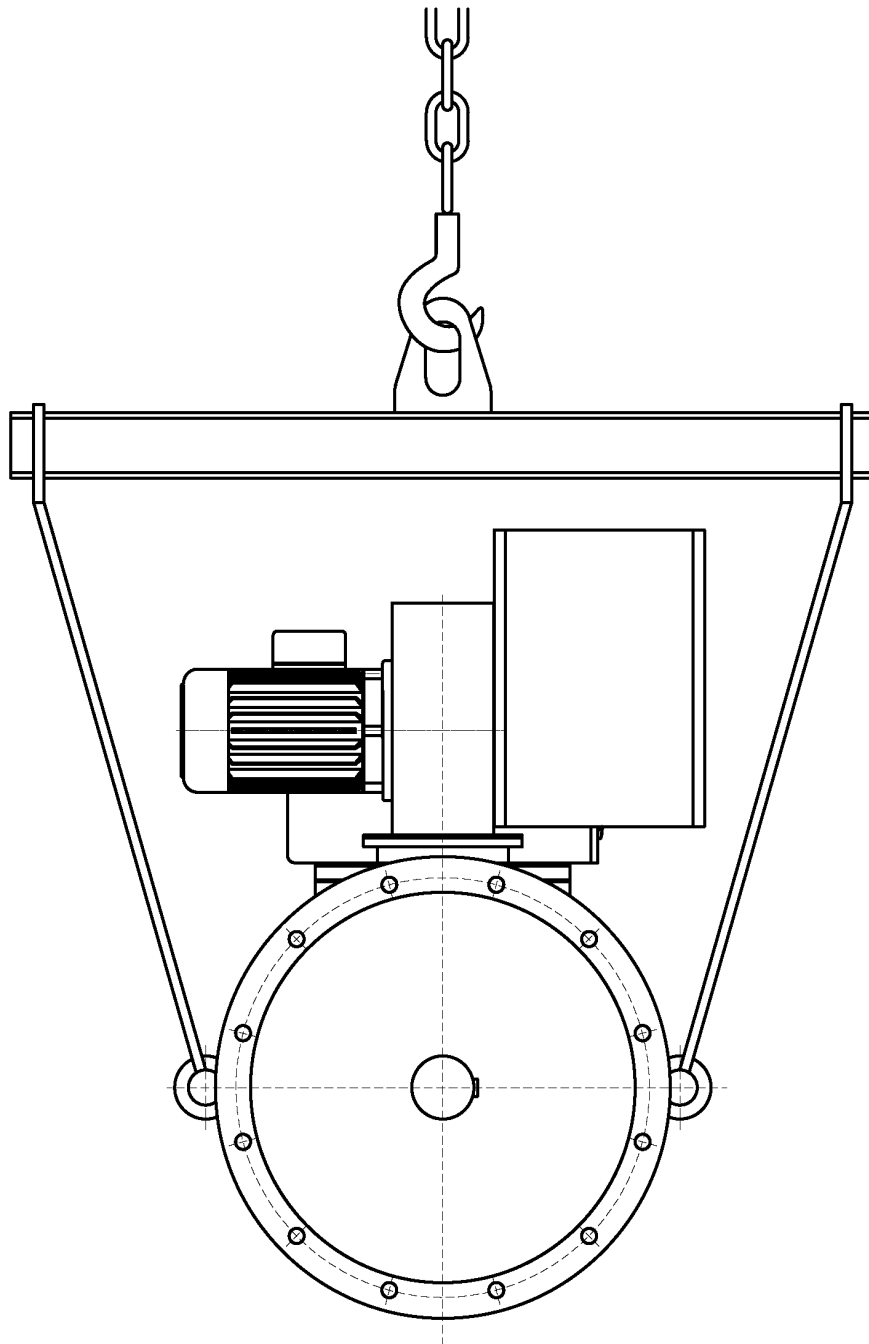

Figure 1: Use of cross beam for transporting the Wölfer motors.
- The built-in ring screws are according to DIN 580. The loads and specifications mentioned in DIN 580 should be followed in general. All the ring screws provided on the motor have to be attached for transport. The pulling direction of the lifting equipment should not exceed an angle of 45° according to DIN 580. A cross beam should be used as shown in figure 1 to avoid damage to the terminal box or parts of the external fan.